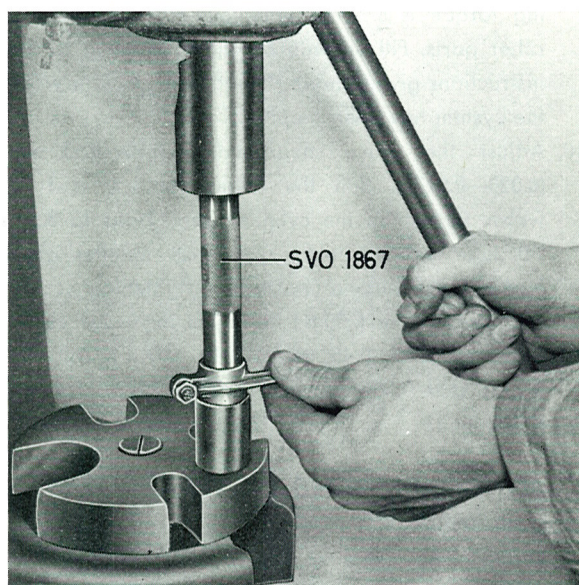
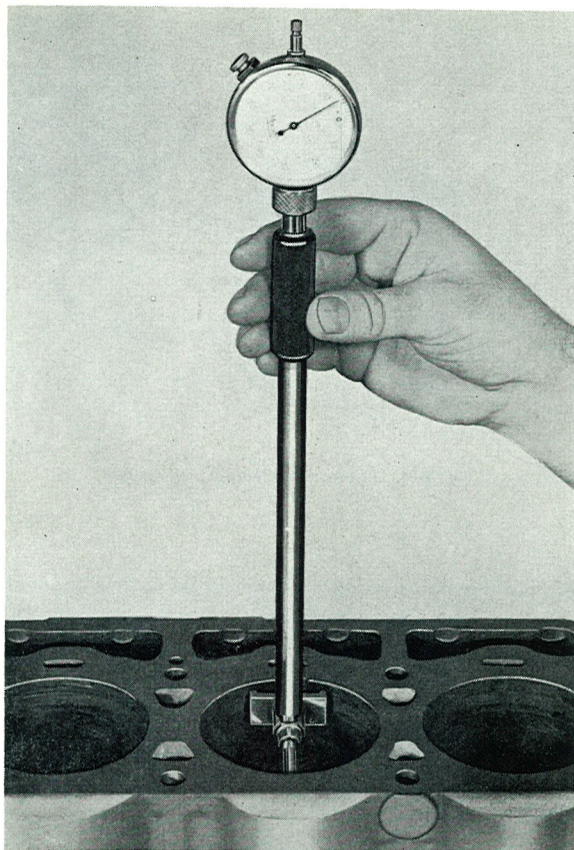

Fig. 2-30. Replacing bush in rocker arm
Fig. 2-31. Measuring the cylinder bore
1. If wear amounts to 0.1 mm (0.004"), replace the rocker arm bush. Use tool SVO 1867 for pressing the bush out and in, see Fig. 2-31. Then ream the bush out and in, see Fig. 2-30. Then ream the fit on the shaft is obtained. The hole in the bush should coincide with the hole in the rocker arm.
indicator as shown in Fig. 2-31. Measuring should be carried out just below the top edge of the bore and only in the transverse direction of the engine.